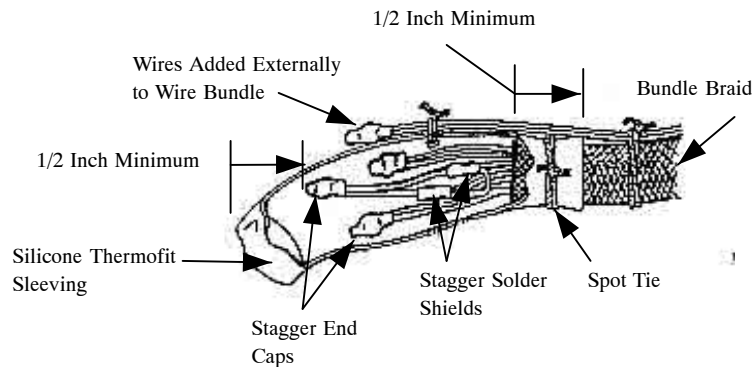
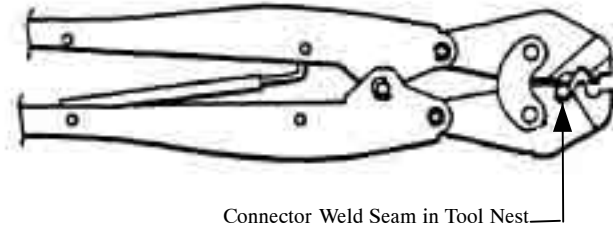

Figure 16. End Cap Area with Parallel Splices
Figure 17. In-Line Splice Crimping
- e. When more than one wire in a harness is end capped, ensure wires are cut to stagger end caps to maintain harness dimensions (Figure 16).
Connector must be centered in the nest. Connector weld seam must be in the nest section of the crimping tool as shown in Figure 16. Position wires in connector to allow maximum of 0.2 inch between connector and wire insulation after crimping (Figure 17).
g. Crimp the connector in the appropriate nest of the AMP No. 49935 crimping tool. (Figure 17).